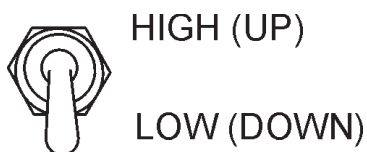

Figure 55. Engine Speed Switch
2. Set the engine speed switch (Figure 55) to the idle (low) position.